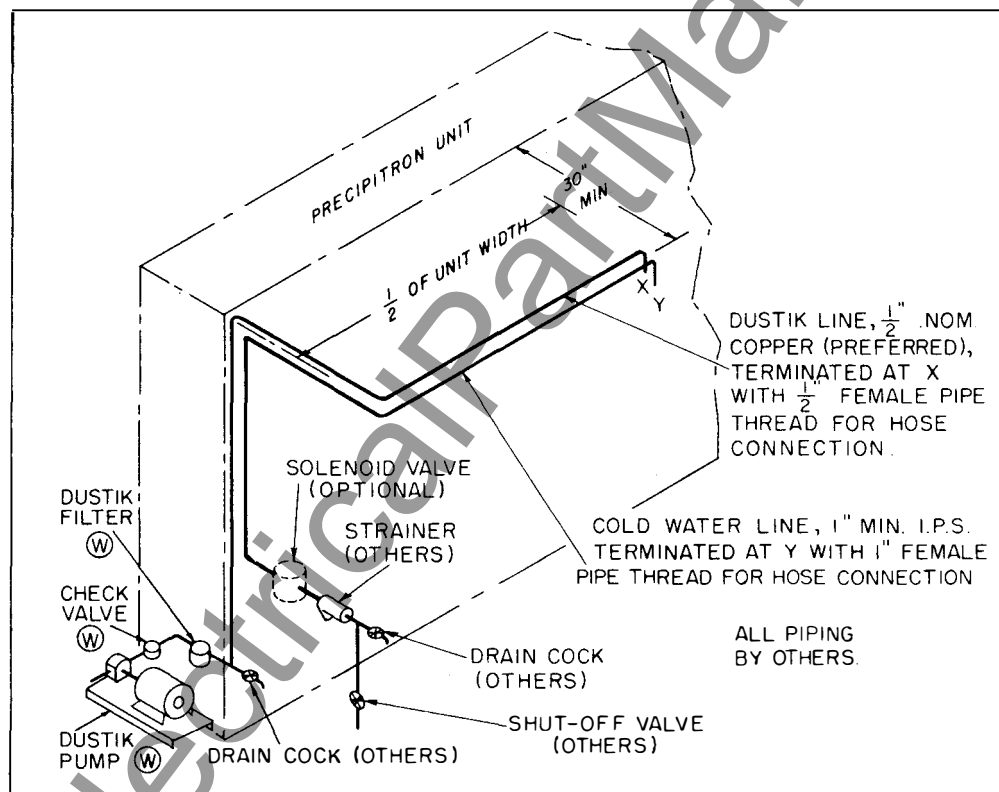

Fig. 21 — Water and Adhesive Piping
**DUSTIK PIPING** (not supplied) is installed as shown in Figure 21. Clean line thoroughly before installation. Install the DUSTIK filter as shown.
**WASH WATER** should be clean and at ordinary tap temperature. The source should be capable of supplying required quantity (g.p.m.) at sufficient *running pressure* to satisfy the spray header water requirements. See Figure 21 for the g.p.m. flow required for units of various heights and the header pressure limitations for correct nozzle operation. Where water may contain some dirt, strainers or other filtering means (not furnished) must be provided to prevent clogging of nozzles.
**WATER PIPING** (not supplied) is shown schematically in Figure 21. Piping should be at least 1" ips. If water source pressures are low, or lines are long or
*vacuum breakers* must be installed to meet local codes, larger pipe should be used to minimize pressure losses. Water piping should include a hand operated shut-off valve located convenient to the unit control center. See Figure 21. *Keep water lines clean during installation.*
**WATER SOLENOID VALVE.** A 1-1/4" ips solenoid valve is supplied with SCP Control. (See CONTROL PANEL). This valve may also be supplied as optional equipment, when specified, for SCM Control. When supplied, this valve should be installed on the discharge side of the hand valve to control the wash water automatically, as shown in Figure 21.